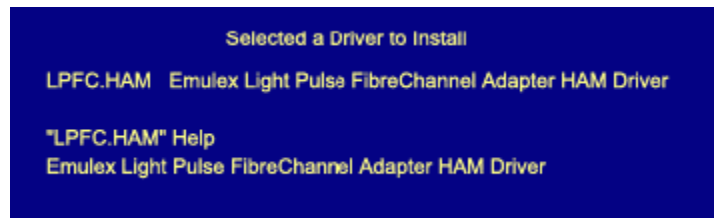

Figure 5: Select a Driver to Install
6. Select the Emulex lpfc.ham driver and copy the driver files to the server directory. A screen similar to the Figure 5 appears: